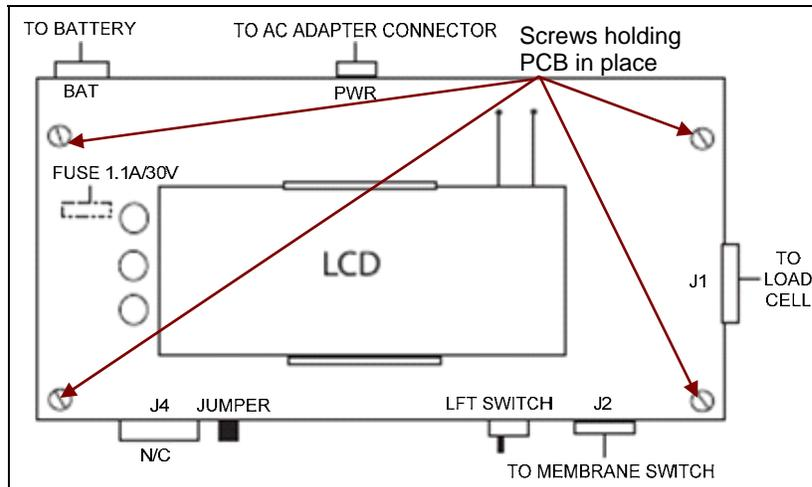

Figure 3-3. PCB Connector Locations
3. Remove the connector plugs from the Battery and AC Adapter. Remove the four screws holding the PCB. (See Figure 3-3.)